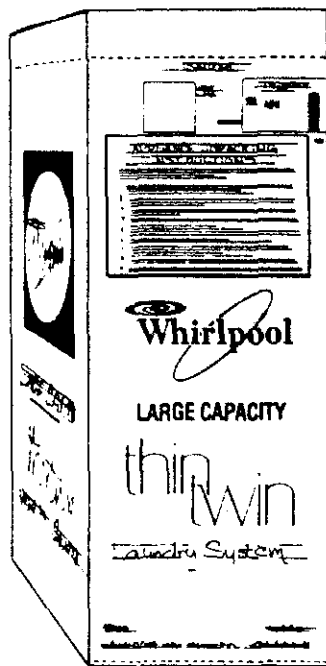

Fig. 1
1. Cut along the dotted line around the top and bottom of the carton. (Fig. 1)